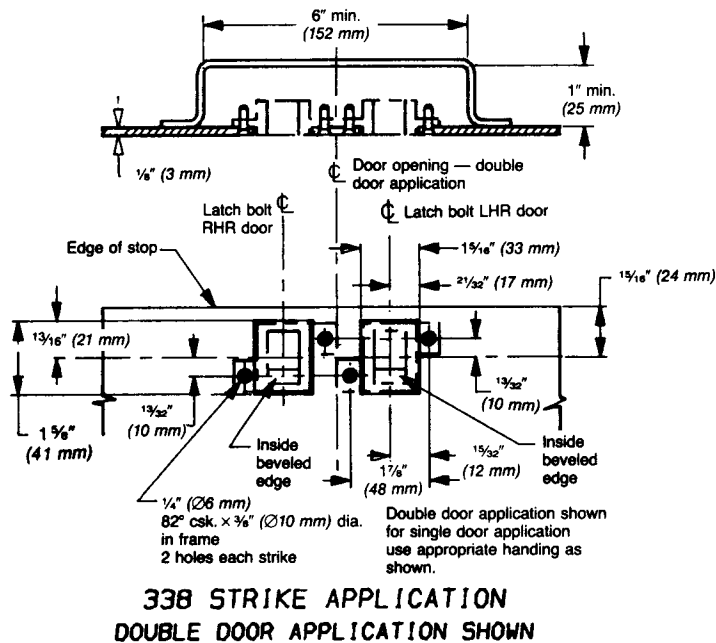

Figure 11-1
- 11-1. Install 338 strike to frame as shown in figure 11-1.